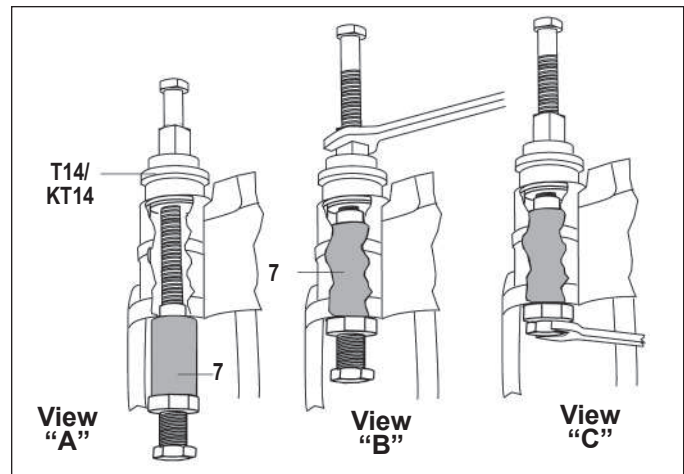

Figure 77 – View “A” and “B”: Draw the Brass Bushing into Position. View “C”: Lock the Bushing into Position
5.6.22 With the dimpling tool (T16) in position, tighten the screw in its base until it contacts the dimpling screw housing. The movement of this screw forces three points outwards, leaving indentations in the brass bushing. See Figure 77, view “C”.